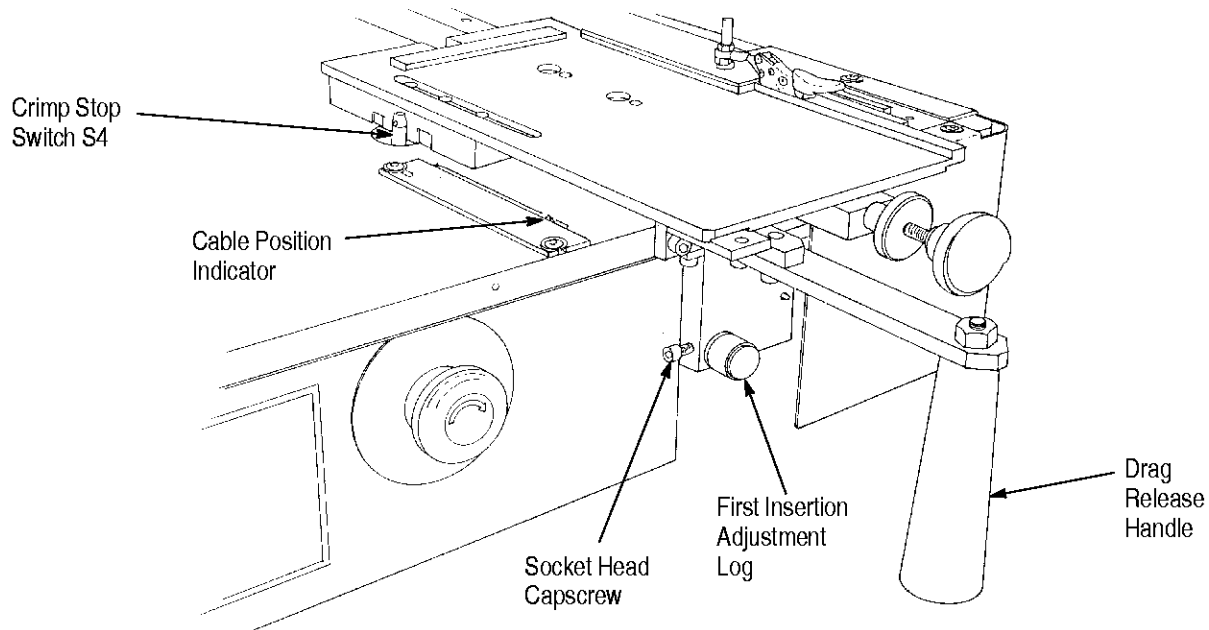

Figure 8
5. Depress the CRIMP STOP switch (S4) and hold. Release the START switch (S5). See Figure 8.
Unlock first insertion adjustment knob by loosening the socket head cap screw. See Figure 8. Turn first insertion adjustment knob **CLOCKWISE** or **COUNTERCLOCKWISE** to align pointer with the appropriate number on the cable position indicator. The number on the cable indicator must correspond with the number of the last conductor being crimped. Retighten socket head cap screw after the first insertion adjustment knob is properly set.